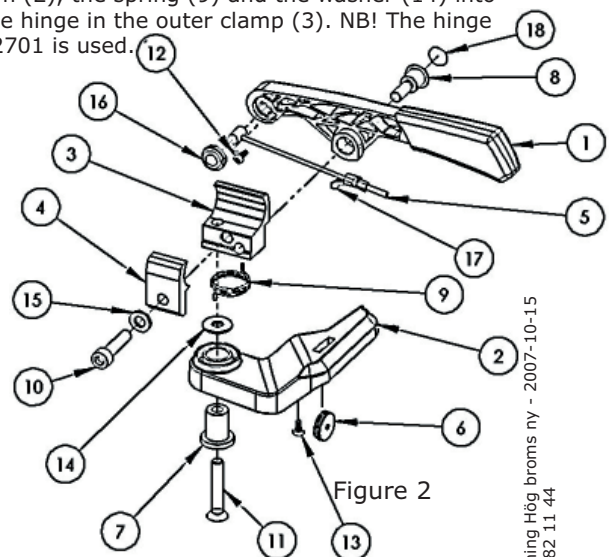

Figure 2
2. To assemble the brake on your wheelchair, loosen the bolt on the inside of the brake slightly (10) (figure 2), so that you can place the brake clamps (3 and 4) around the seat tubing of the chair.
Assemble the brake as follows (see figure 2):